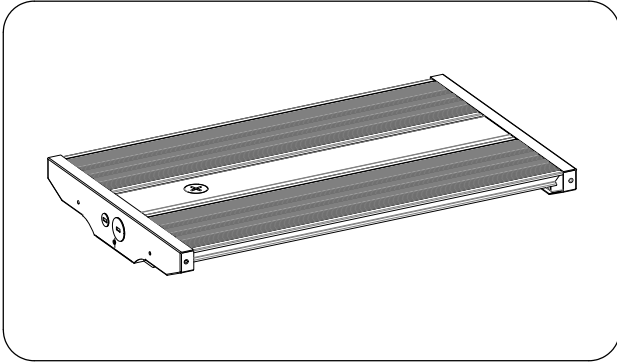
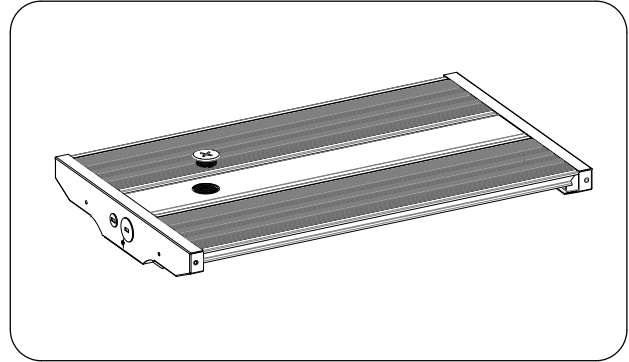

Figure 1
Figure 2
Step 1: Remove the receptacle cover.(Figure 1 and Figure 2)